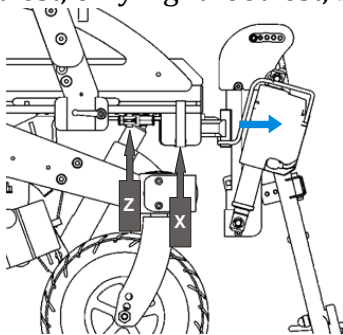

Figure 31
Seeing Figure 31 loosen the pin (Z) and move the platform to the desired height. Retighten the pin (Z).